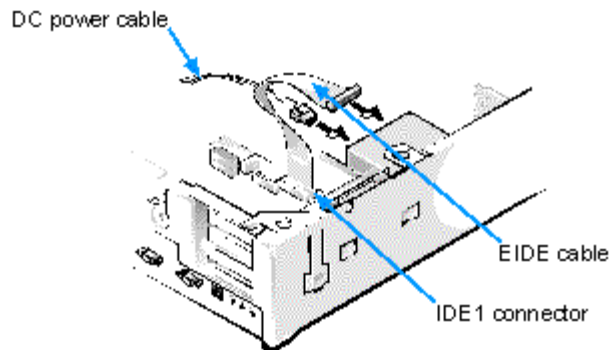

Figure 7-13. Attaching Hard-Disk Drive Cables
8. **Connect one end of the EIDE cable to the 40-pin interface connector on the back of the hard-disk drive (see Figure 7-13).**
10. **Connect a DC power cable to the power input connector on the back of the drive (see Figure 7-13).**